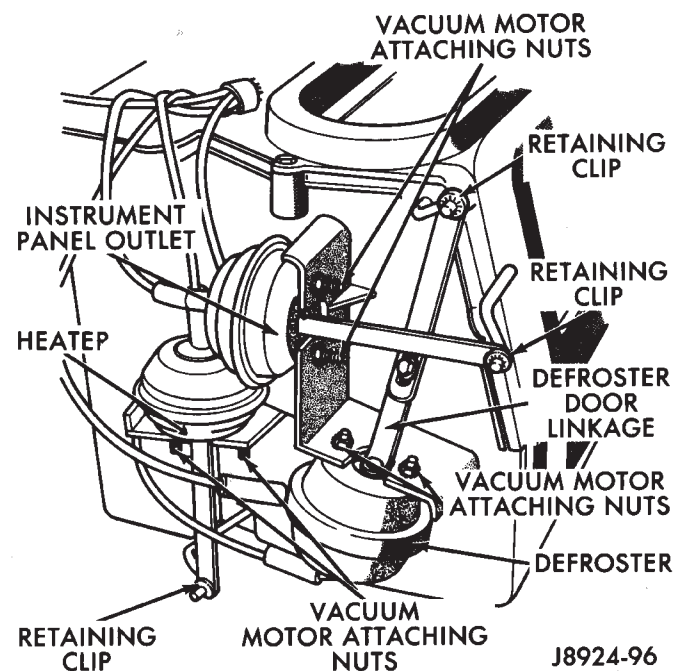

Fig. 13 Vacuum Motor
- (1) Remove center console. Refer to Group 23 body for procedure.
- (2) Remove the lower instrument panel.
- (3) Disconnect the vacuum hose(s) from the vacuum motor.
- (4) Remove the vacuum motor attaching nuts and remove the vacuum motor from the bracket.
- (5) Remove the vacuum motor linkage retaining clip and remove the rod from the door actuating lever (Fig. 13).